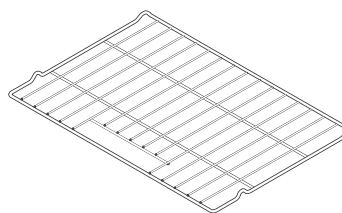

Figure 1
- **Flat handle oven rack** (Figure 1).